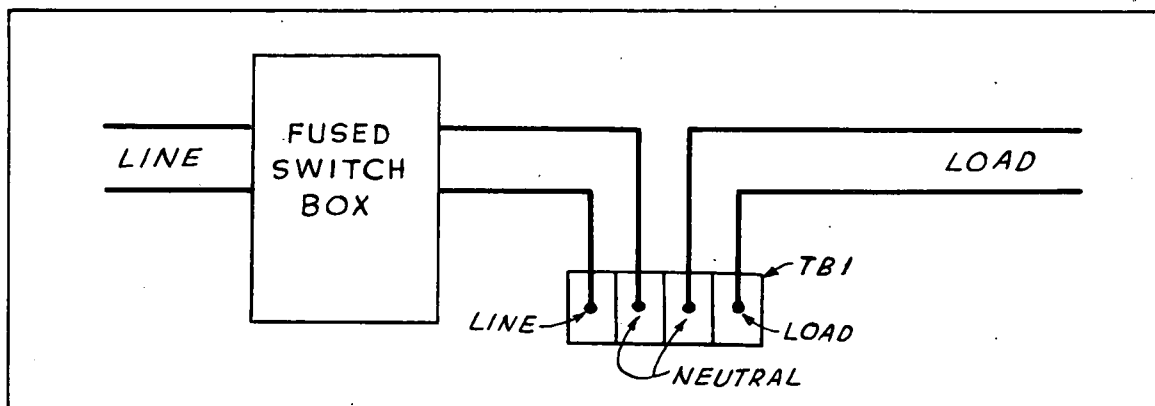

FIG. 3 - LINE AND LOAD CONNECTIONS
2. Install line and load wires to "A" unit (Fig. 3).